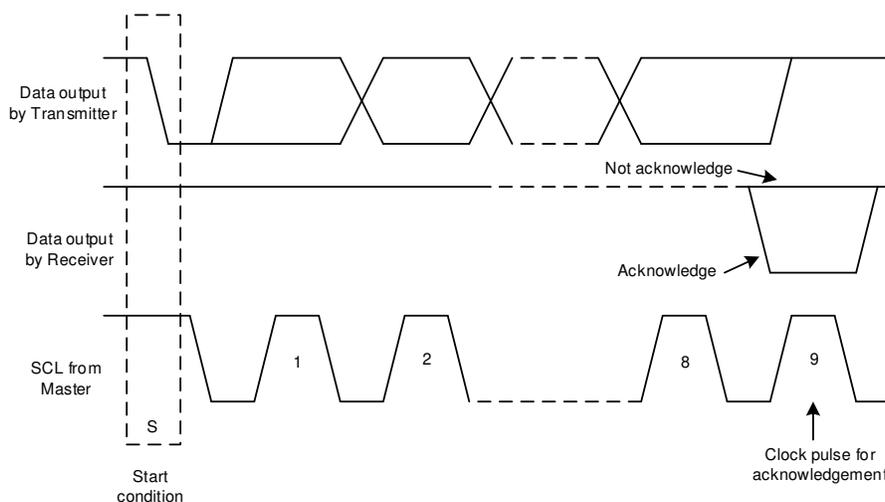
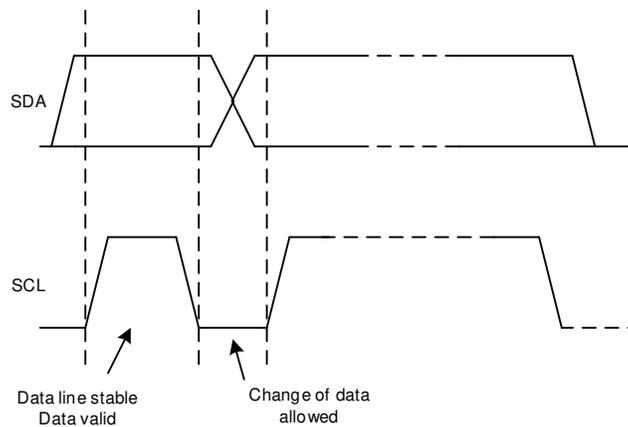

Figure 59. Acknowledge and Not Acknowledge on the I²C Bus
Figure 61. Bit Transfer on the I²C Bus
Other than specific timing signals, the I²C interface works with serial bytes. At the end of each byte, a ninth clock cycle generates and detects an acknowledge signal. Acknowledge is when the SDA line is pulled low during the high period of the ninth clock cycle. A not-acknowledge is when the SDA line is left high during the high period of the ninth clock cycle as shown in Figure 59.
- The master then generates the SCL pulses, and transmits the 7-bit address and the read/write direction bit (R/W) on the SDA line. During all transmissions, the master makes sure that data are valid. A valid data condition requires the SDA line to be stable during the entire high period of the clock pulse, as shown in Figure 61. All devices recognize the address sent by the master and compare it to their internal fixed addresses. Only the slave device with a matching address generates an acknowledge by pulling the SDA line low during the entire high period of the ninth SCL cycle, as shown in Figure 59 by pulling the SDA line low during the entire high period of the ninth SCL cycle. Upon detecting this acknowledge, the master knows the communication link with a slave has been established.